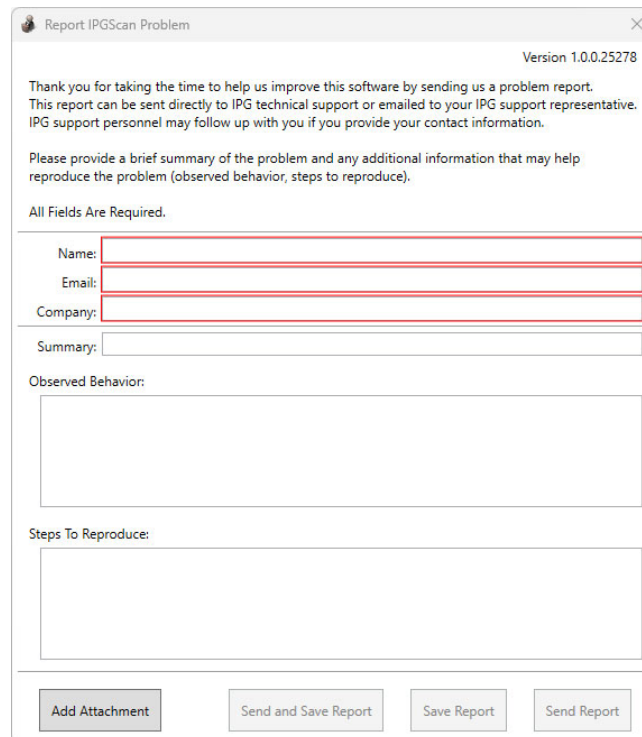

Figure 394: The Bug Reporting Utility
1. Launch the Bug Reporting Utility (also called "Report IPGScan Problem") from the Start Menu or click "Help" and "Report a Problem" in IPGScan. See Figure 394 (below).